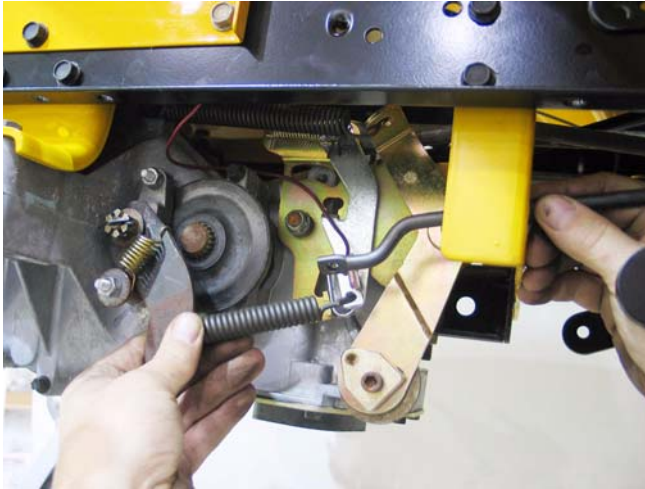

Figure 34.8
- 34.8. Use the resulting slack in the linkage to disconnect the rear of the brake rod from the spring that joins it to the arm on the caliper. See Figure 34.8.